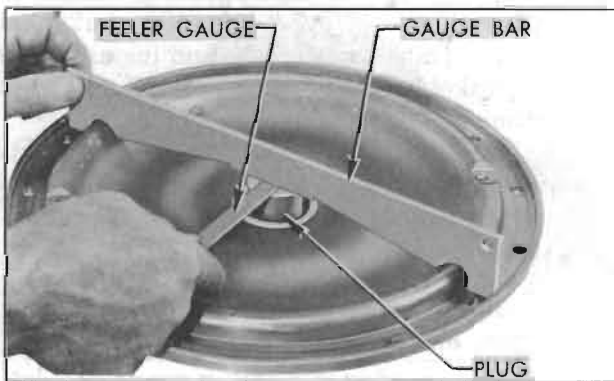

Figure 4-148—Checking Primary Pump Cover with Clearance Gauge
3. Support primary pump cover on suitable blocks. Install bearing plug of Converter Clearance Gauge J 3045 (for Series 40-50) or J 2596 (for Series 70) in ball bearing in pump cover. Place gauge bar across cover with ends resting on flat surface between bolt holes. See figure 4-148.